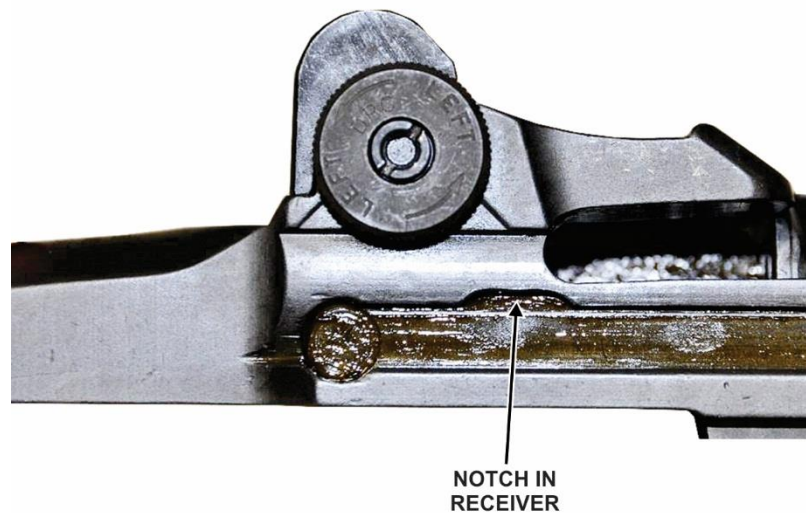
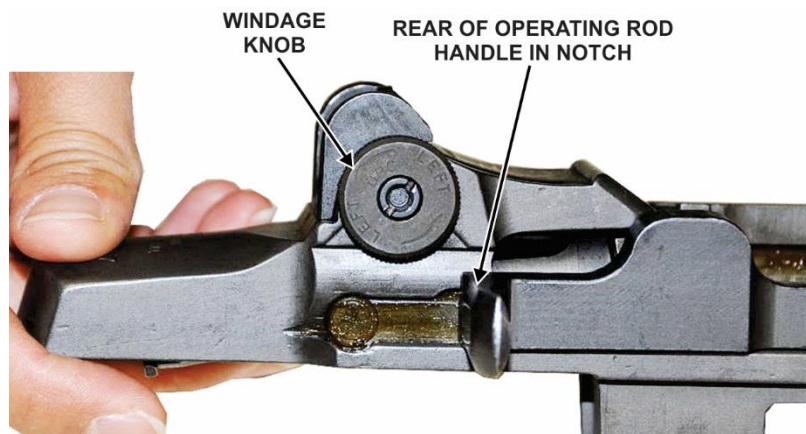

Figure 20. Notch on receiver
Figure 21. Handle under forward edge of windage knob
- 5) With the receiver facing upright, pull the operating rod to the rear with slight upward force until it engages the notch (fig 20) in the receiver. The rear of the handle will be directly under the forward edge of the windage knob (fig 21).